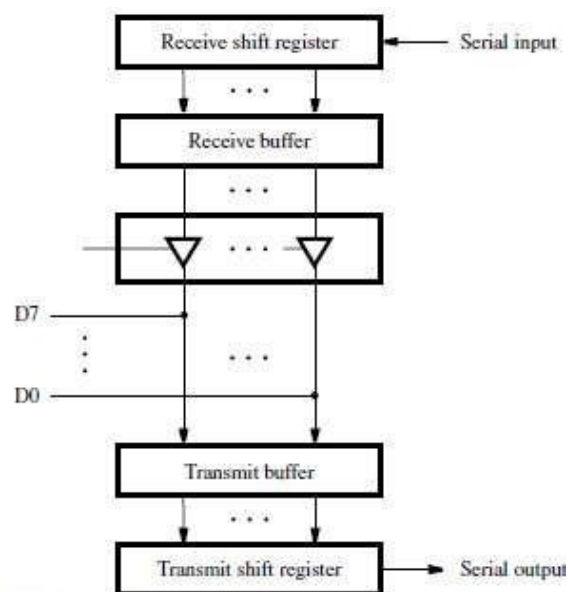

Figure 10.7 Receive and transmit structure of the serial interface.
- The serial interface provides the UART capability to transfer data (Figure 10.7). (UART □ Universal Asynchronous Receiver/Transmitter).